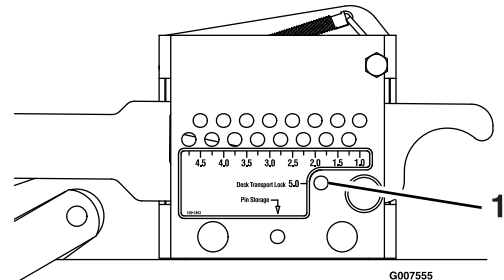

Figure 7
3. Raise the deck height lever to the transport position (also the 5 inch (12.7 cm) cutting height position)(Figure 7).